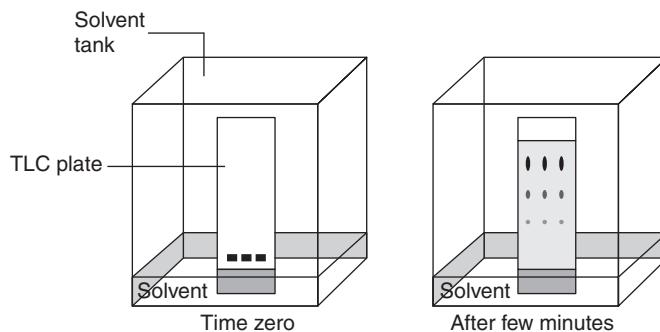

Figure 1 Different components travelling different distances.
4. The separation of mixture into different spots occurs. Different components of the mixture travel up to different distances with the eluent depending upon the extent of adsorption on the adsorbent as shown in the below figure 1.